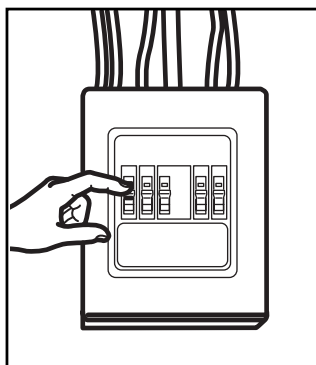

Figure 1
- For personal safety, remove house fuse or open circuit breaker before beginning installation to avoid severe or fatal shock injury. *Figure 1*